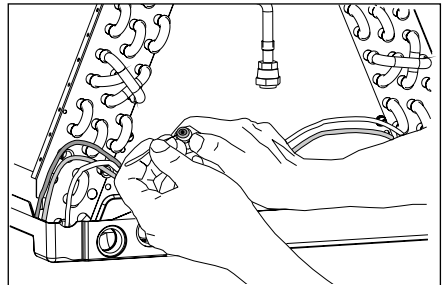

Figure 4. Removal of Orifice
4. Insert a light-gauge wire hook between the distributor body and the orifice to lift the orifice out of the body. (See Figure 4) Remove the orifice being careful not to scratch either part.